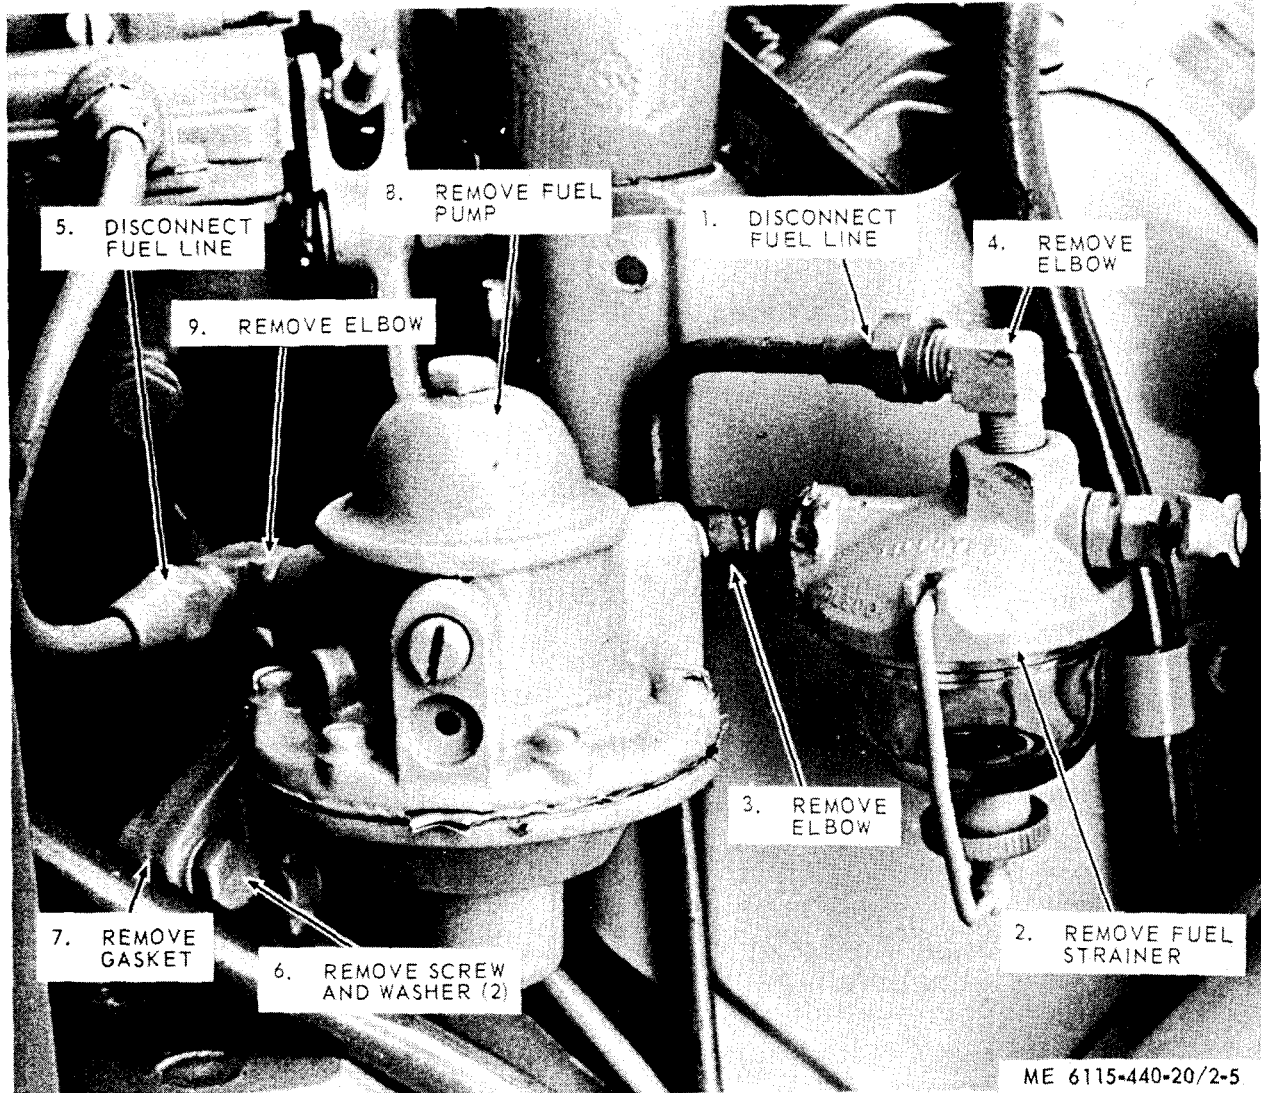

Figure 2-5. Fuel strainer and fuel pump, removal and installation.
(1) Place fuel selector valve handle in OFF position.
(2) Refer to figure 2-5 and remove the fuel strainer.
b. Installation. Refer to figure 2-5 and install the fuel strainer.
(2) Refer to figure 2-5 and remove the fuel pump.
b. Installation. Refer to figure 2-5 and install the fuel pump.